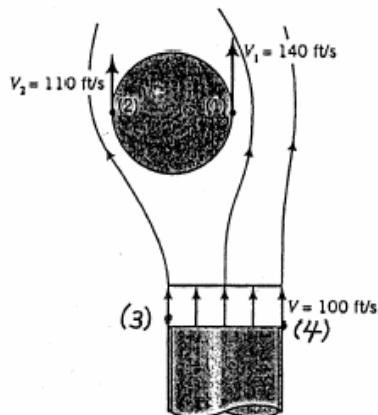

FIGURE P3.16
3.16 A 100 ft/s jet of air flows past a ball as shown in Video V3.1 and Fig. P3.16. When the ball is not centered in the jet, the air velocity is greater on the side of the ball near the jet center [point (1)] than it is on the other side of the ball [point (2)]. Determine the pressure difference, $p_2 - p_1$, across the ball if $V_1 = 140$ ft/s and $V_2 = 110$ ft/s. Neglect gravity and viscous effects.